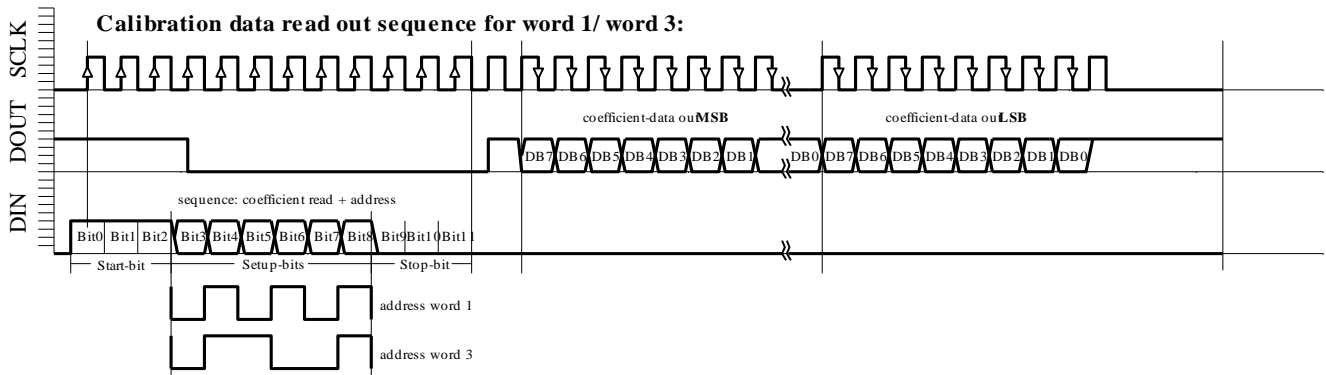

Fig. 6c: Word1, Word3 READING sequence
- ◆ Calibration data read-out sequence for Word1 (Figure 6c)
- ◆ Calibration data read-out sequence for Word3 (Figure 6c)